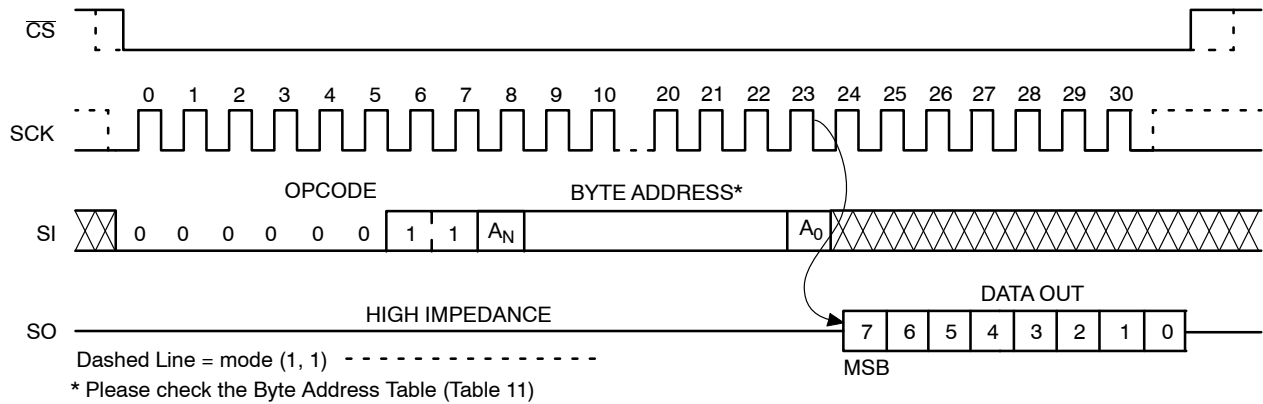

Figure 9. READ Timing
After receiving the last address bit, the CAT25512 will respond by shifting out data on the SO pin (as shown in Figure 9). Sequentially stored data can be read out by simply continuing to run the clock. The internal address pointer is automatically incremented to the next higher address as data is shifted out. After reaching the highest memory address, the address counter “rolls over” to the lowest memory address, and the read cycle can be continued indefinitely. The read operation is terminated by taking $\overline{CS}$ high.
Reading the additional 128-byte Identification Page (IP) is achieved using the same Read command sequence as used for Read from main memory array (Figure 9). **The IPL bit from the Status Register must be set (IPL = 1) before attempting to read from the IP.** The [A6:A0] are the address significant bits that point to the data byte shifted out on the